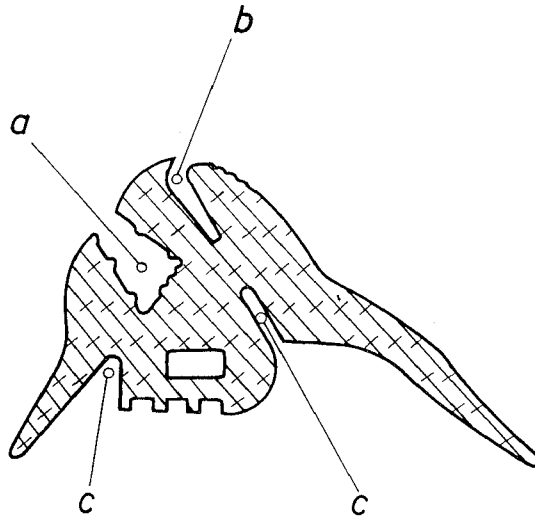

Fig. 82
- 12. Place a cord in the slot ("b" Fig. 82) and insert trim strip. Pull out cord downward and press trim strip in place.